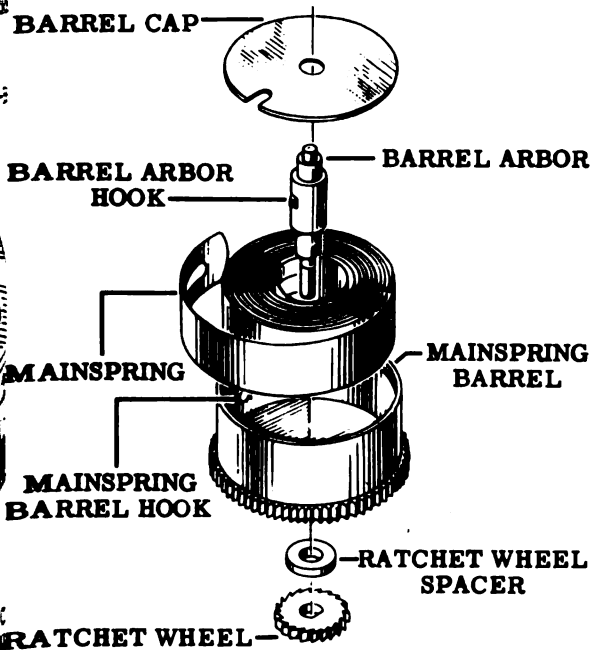

Figure 95—Mechanical Clock Barrel
15. Place the ratchet wheel spacer and the ratchet wheel on the barrel arbor. See Figs. 95 and 96. Mount the barrel into its hole in the front plate. Check to see that the click properly engages the ratchet wheel.